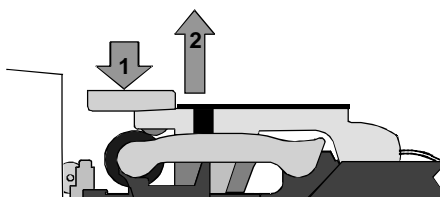

Figure 2-6: Open the swing arm
- 2 Press down on the swing arm until it clicks (step 1 in Figure 2-6). The push latch releases the swing arm. Lift the swing arm until it is fully open (step 2 in Figure 2-6).